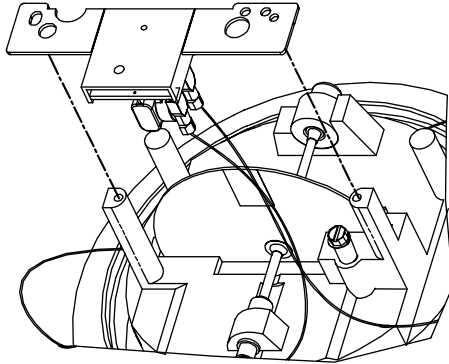

Figure 45. Attaching the WOPI
7. Position the WOPI bracket against the meter base so that the mounting bracket holes are aligned with the face plate screw holes and the WOPI is parallel to the meter disk. See Figure 45.